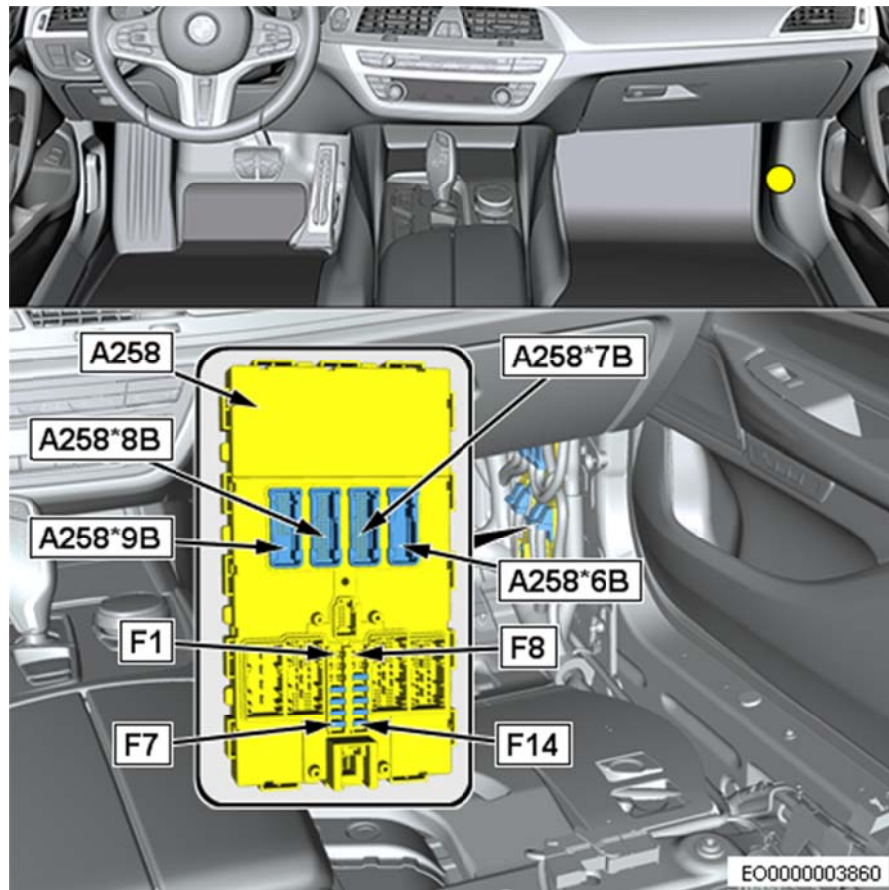

Fig. 3 BDC appearance
- 1) Connect in parallel CAN1 (yellow(Hi) and blue(Lo)) from the retrofit adapter to the vehicle's K-CAN3 (yellow/brown(Hi) and yellow/black(Lo)) of BDC connector A258_8B (Fig. 3).